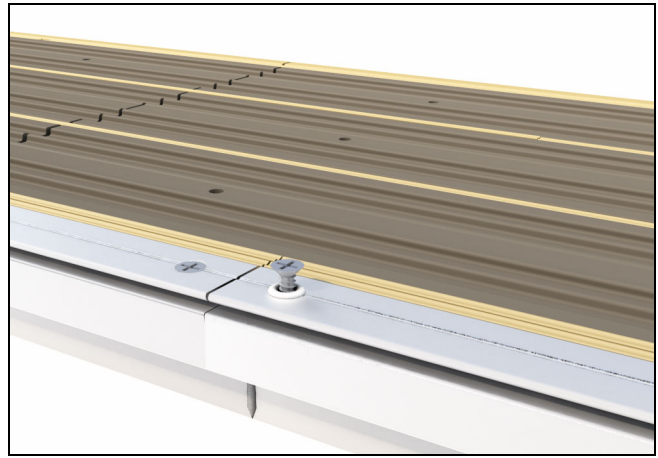

Figure 15
8. Remove other (non-injected) frame cladding splice key screw and inject with sealant until squeeze out occurs in a different location. Install #7 x 5/8" flat head screw. See figure 15.